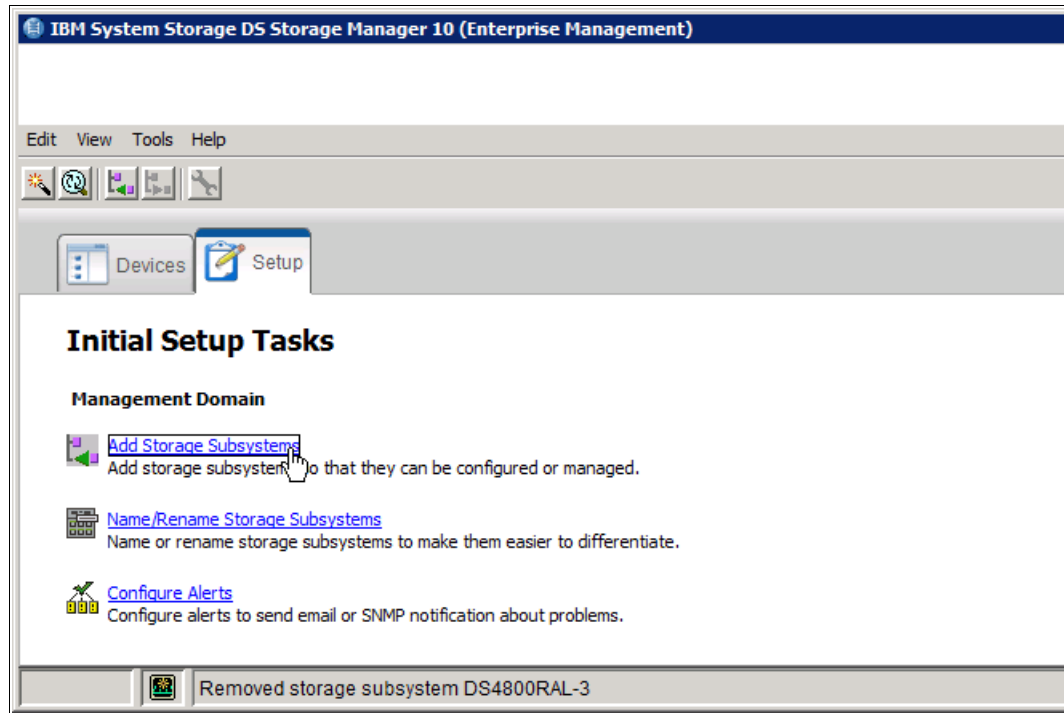

Figure 4-25 Add Storage Subsystem
1. From the Setup tab DS Storage Manager Enterprise Management window, click the **Add Storage Subsystem** link, as shown in Figure 4-25.